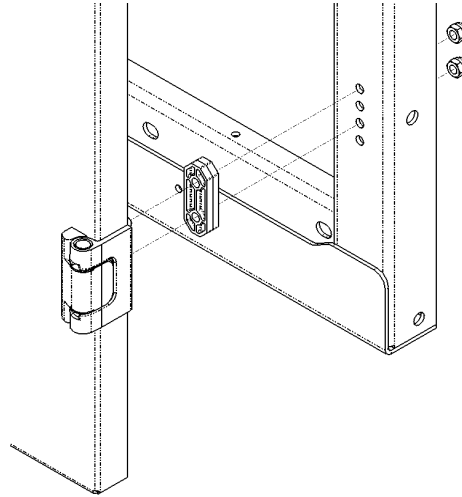

Fig. 2.4.2 Rear door hinge
2. Remove the hinges from the cabinet frame and remount them on the opposite side of the cabinet frame. Insert the hinge screws through the first and the third holes from the top (see Fig. 2.4.2).